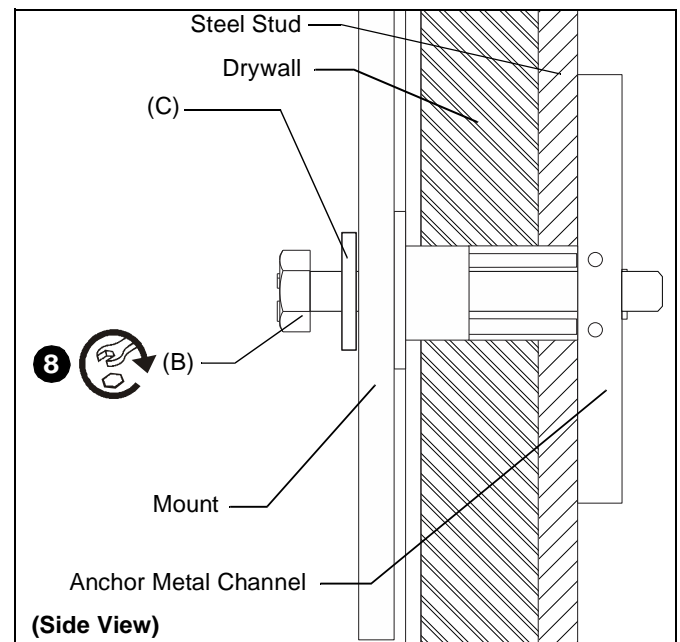

Figure 4
7. Place mount over anchors and align mounting holes in display mount with holes in anchors. (See Figure 4)
8. Insert 1/4-20 x 2-1/2" hex head screw (B) through 1/4" washer (C), corresponding mounting hole on mount and into anchor (A) and tighten until flush against mount. DO NOT over tighten! (See Figure 4)